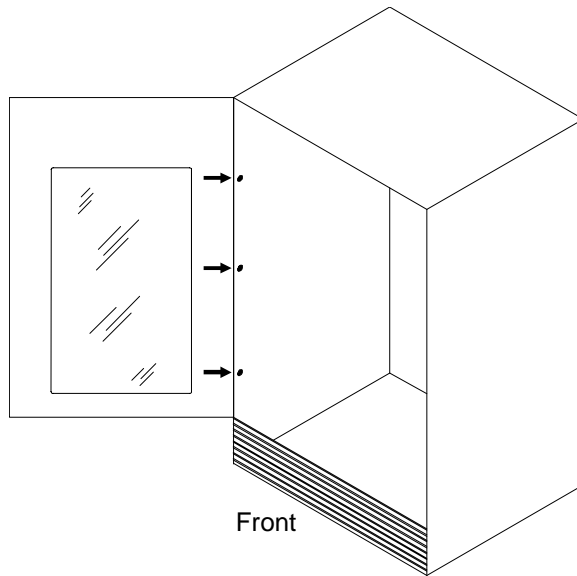
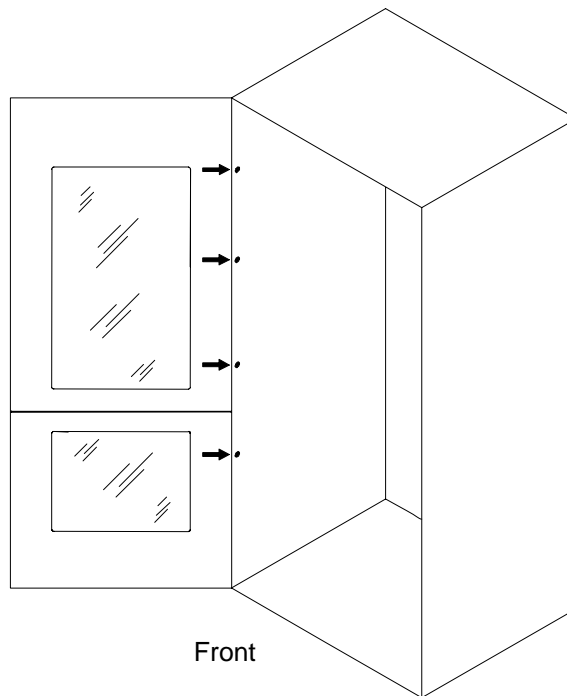

Figure 7-6 TLS-412180/360 Left Side Panel Nuts
Figure 7-7 TLS-412300/600 Left Side Panel Nuts
5. When removing the left side Panel, use a wrench to remove the three or four (model specific) 1/4-inch nuts from the side panel, which are located inside the front opening (Figure 7-6 or Figure 7-7).